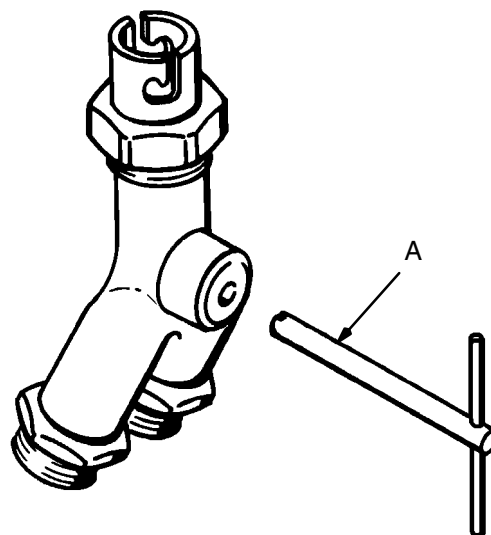

Fig 1
*To adjust the fluid flow*, insert the adjustment tool (A) as shown in Fig 1. Turn the tool clockwise to decrease flow and counterclockwise to increase flow.